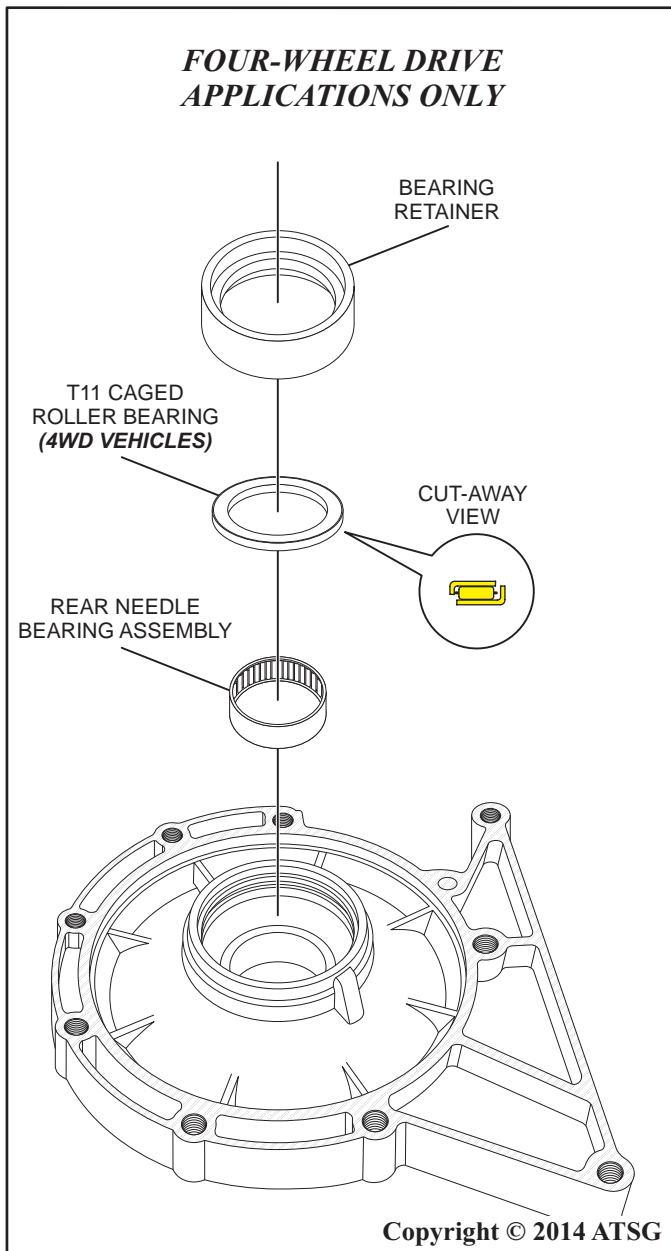

Figure 57
39. Using ST 307-562 needle bearing remover and ST 205-256 front wheel hub oil seal installer or other suitable bearing removal tool, remove the needle bearing retainer, the caged roller bearing and the needle bearing as shown in Figure 57.